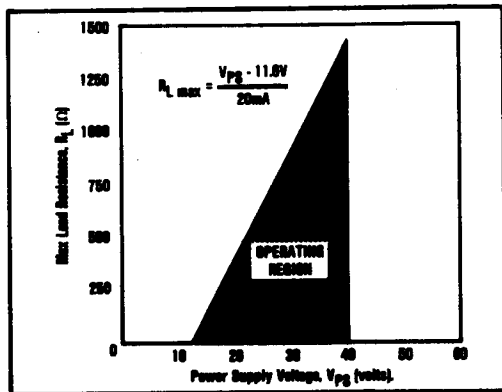

FIGURE 2. Power Supply Operating Range.
6. Always choose R_L (including line resistance) so that the voltage between pins 7 and 8 ($+V_{CC}$) remains within the 11.6V to 40V range as the output changes between the 4mA to 20mA range (see Figure 2).